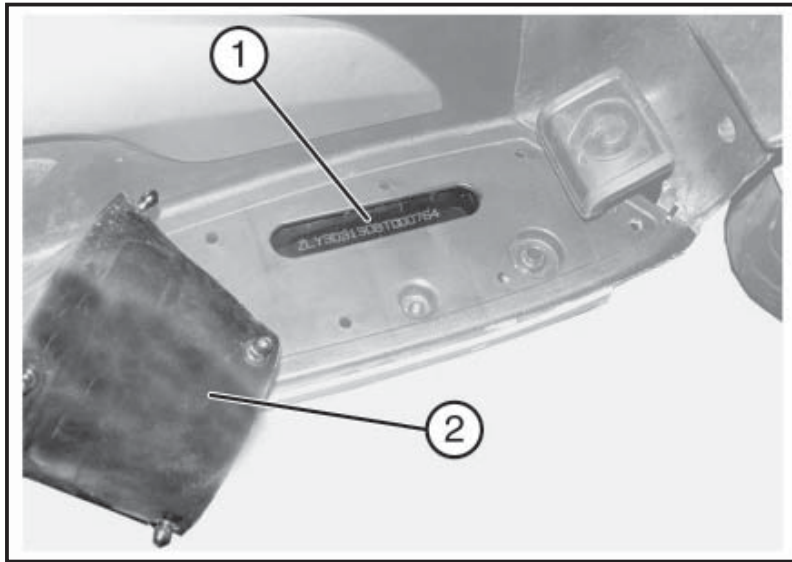

Fig. 01
- The Vehicle Identification Number «**1 - Fig. 01**» (VIN) is stamped on the frame's right hand crossbeam and it may be accessed by removing the passenger's footrest «**2 - Fig. 01**».